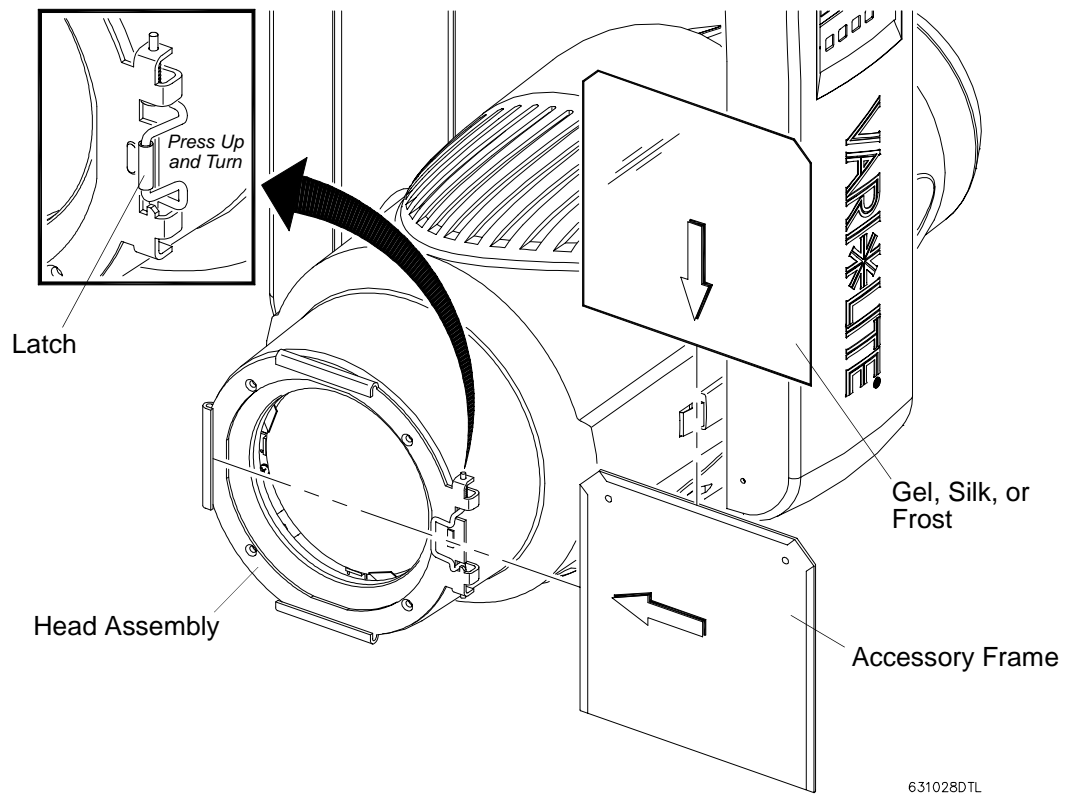

Figure 2-3: Installing a Frame or Top Hat
- Step 3. Remove frame/top hat, if any (Figure 2-3).